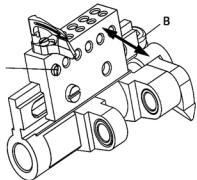
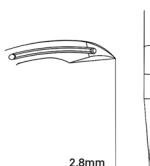
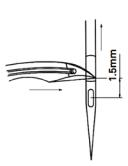
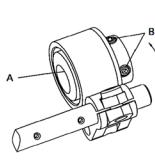

图17(Fig.17)
图19(Fig.19)
图20(Fig.20)
图21(Fig.21)
2.Turn pulley to move looper point up to the center line of needle.(Fig.17)
3.Adjust the gap between needle tip and looper tip to be  $0-0.05\text{mm}$ ,Tighten screw (A) up.
当机针位于最低点时，弯针尖端与针中心线之间的间隙为2.8mm(图19)调整时将弯针底座驱动杆固定螺钉(B)放松，前后调整弯针座后在锁紧螺钉(B)。(图17)
When needles are at the bottom end positon ,the distance between looper tips and the center ling of needles is 2.8mm. (Fig.19) To adjust the position of looper ,first loosen nut (B) on looper Holder and move back and forth to the proper position .Then tighten nut (B).(Fig.17)
针棒由最低点开始往上移，且弯针尖由后死点往前移至右边如(图20) (A)所示位置时，弯针尖由前死点位置往后移至针的右边如(图19) (B) 所示位置，弯针即为正确位置。
调整时将弯针前后带动偏心凸轮(A)(图21)的固定螺钉(B)放松，前后调整偏心凸轮(A)的位置，向前移则针对弯针的时间较快，向后移则较慢。
While needles move up from bottom end position and loopers also move forward form rear end position until looper point reach the right side edge of needle (Fig.20)(A),the looper point should be 1.5mm away from the top edge of needle eye.
While needles move down from top end position and loopers also move backward to front end position until same location as above shown on Fig..20(B). Looper point should be 3.0mm away from the top edge of needle eye .For adjustment by loosening screws (B) and move the position of Eccentric Cam (A) (Fig.21) bacd and forth ,the speeds of needles and loopers. Movement can be adjusted slower or faster coordinately.